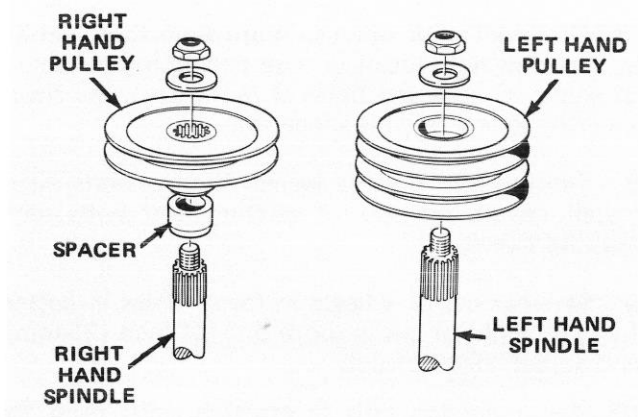

Figure 34
Note: All three spindle housing assemblies are different from one another. A spacer is located beneath the right hand pulley (Fig. 34, 35).
9. Lubricate top oil seal and install in top of spindle housing. Install the spacer on the shaft if right hand spindle assembly is being repaired (Fig. 34). Push pulley onto splines of spindle shaft, and retain parts together with large flat washer and nut. Tighten nut to 140-160 ft-lb (190-217 N·m). Check to be sure spindle rotates freely.